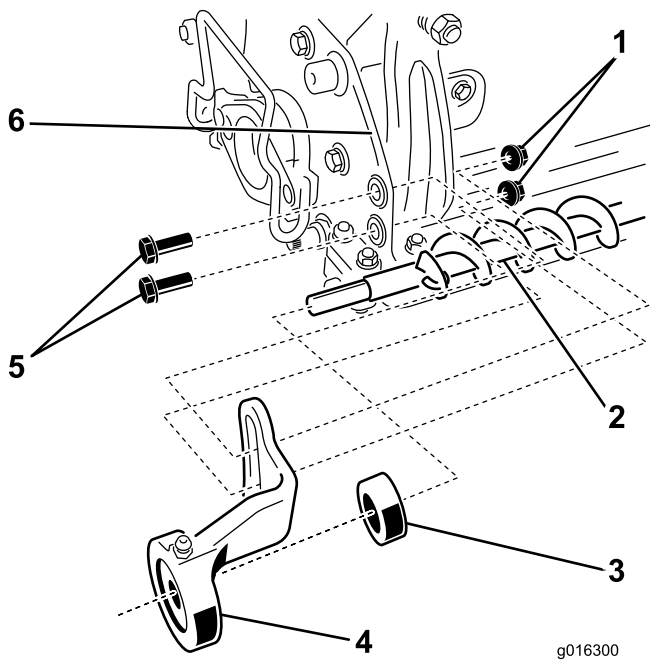

Figure 7
- B. On the free end of the brush shaft, slide the other locking collar up to the shoulder, followed by the left brush support; see Figure 7.
- C. Secure the left brush support to the inside of the cutting unit side plate with 2 hex bolts and 2 flange nuts (Figure 7).